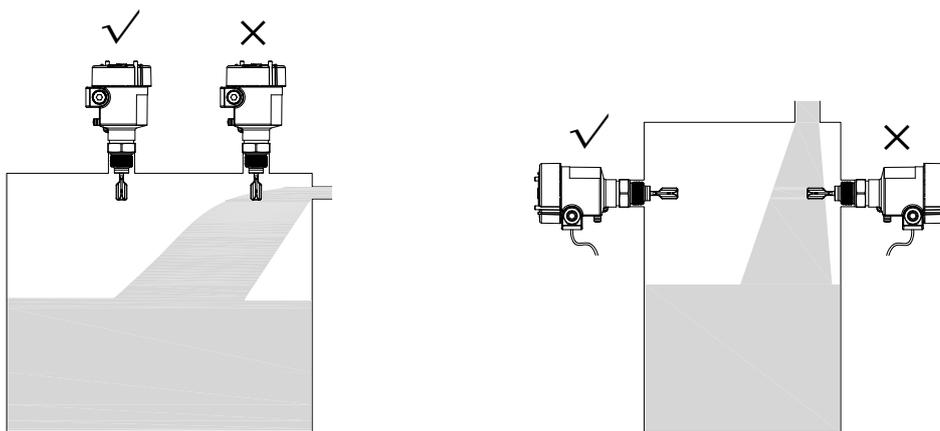

Fig. 3: Avoid mounting at filling opening
- To prevent the instrument from filling impact damage or generating false signals, avoid installing instrument near inlet and outlet, as shown in Fig. 3.